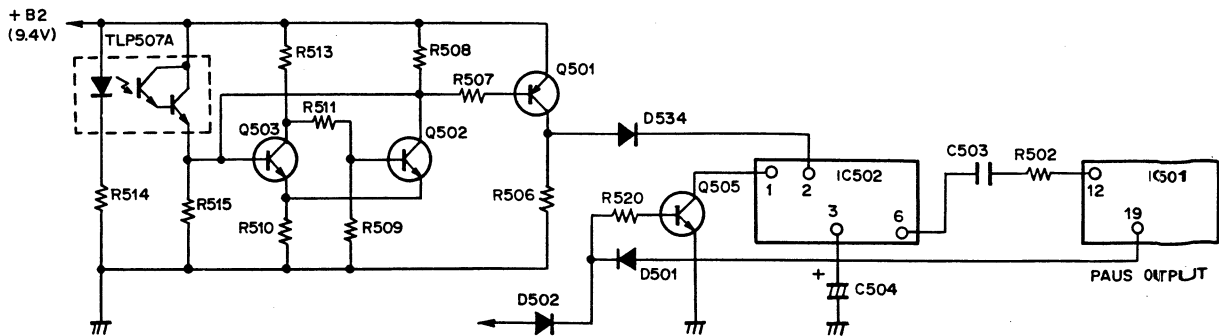

Fig. 6-9 Auto stop circuit
**Auto Stop Circuit (Fig. 6-9)**